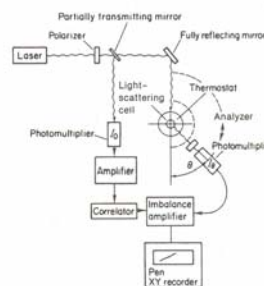

FIGURE 2.7. Schematic of a laser light-scattering photometer. [From Rabek,³⁰ copyright 1980. Reprinted by permission of John Wiley & Sons, Ltd.]
- i) **Figures 2.7 in Stevens**